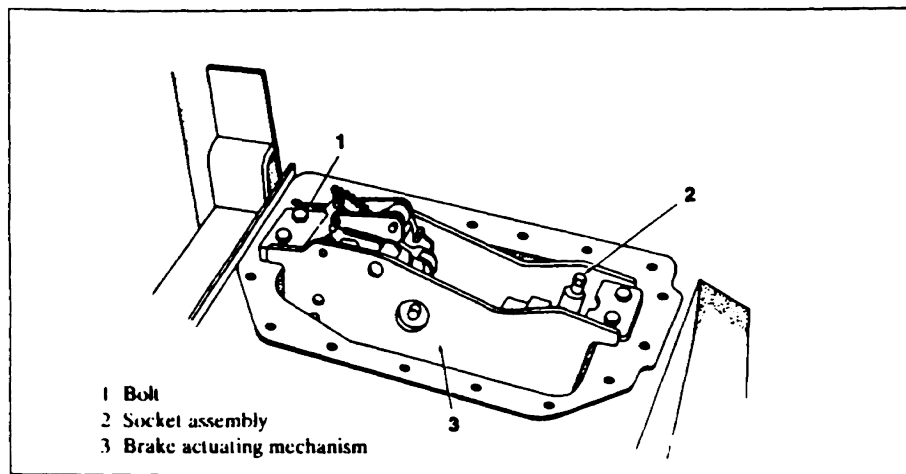

FIGURE 18. BRAKE ACTUATING MECHANISM REMOVAL
Step 7. Loosen the socket assembly to remove tension on the brake bands (Figure 18).